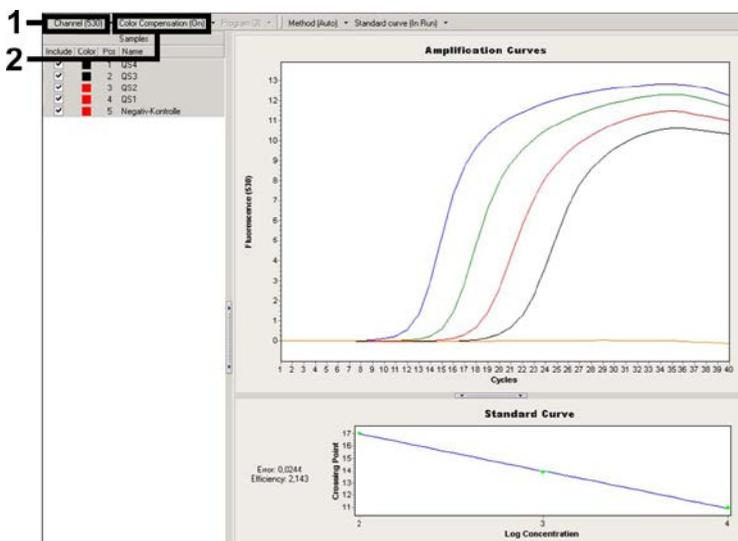

Fig. 16: Activation of the *Color Compensation File* and selection of the fluorescence channel.
For the analysis of PCR data please proceed as follows (see Fig. 16):
- The *LightCycler* Software Version 4.0 contains a file termed *Color Compensation File*, which compensates multicolor analyses interferences between fluorescence channels. Open this file during or after the PCR run by activating the *Color Comp (On/Off)* and then the *Select Color Compensation* button (see Fig. 16). If no *Color Compensation File* is installed, generate the file according to the instructions given in the *LightCycler Operator's Manual*.